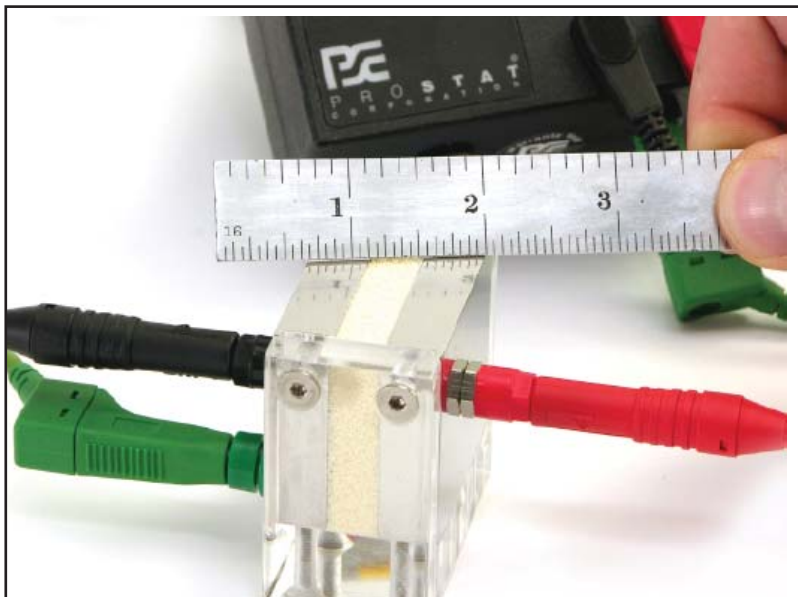

Figure 6: Leveling Material with Straight Edge before Testing
1. Level the material at the top surface of the fixture. (Figure 6)